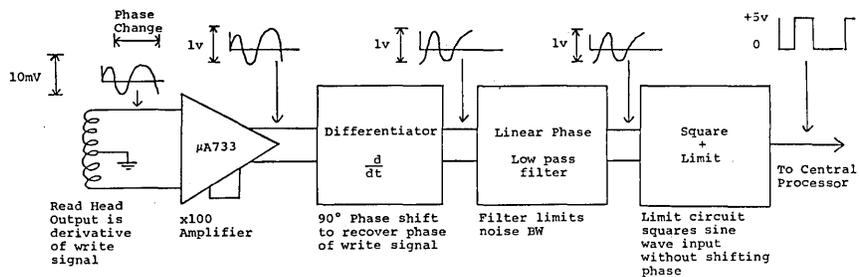

Fig. 1 Typical Phase Encoded Playback System.
and higher read/write speeds than were previously possible with the more familiar non-return-to-zero system (NRZ). Fig. 1 illustrates a typical phase-encoded playback system. In such a system, the amplifier should have (1) high input impedance and low input capacitance to prevent lowering of the Q of the head, (2) differential inputs and outputs for isolation from system common mode noise, (3) excellent gain stability from unit to unit with temperature and supply variations, and (4) good phase linearity. In this function, the $\mu A733$ features input resistance and capacity of 30 K Ω and 2pF, respectively, a fixed gain of 100 and phase linearity of ± 2 degrees.